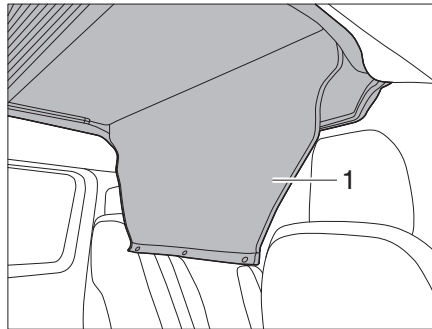

Fig. 3 Rolling up the access cover
- Open the entrance cover (Fig. 3,1) and roll it up.